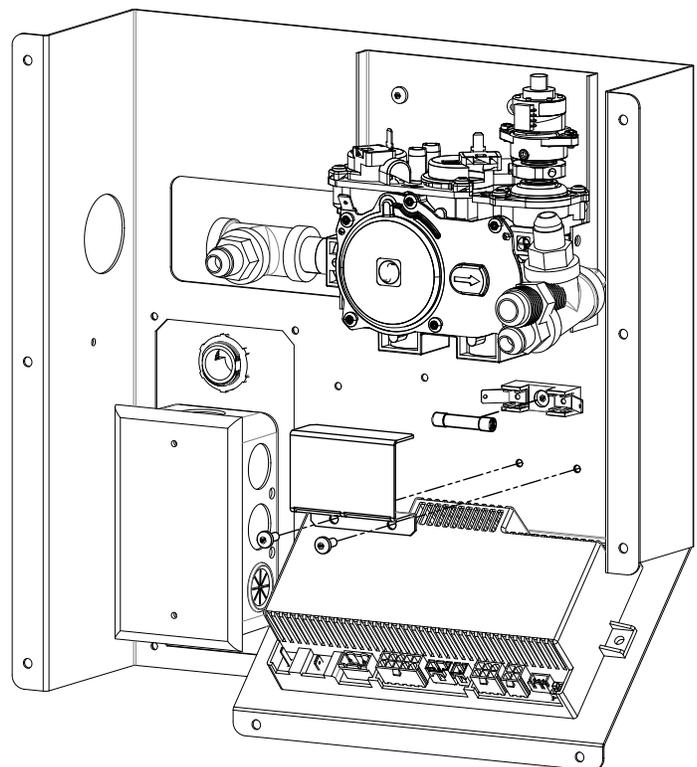

Figure 21: Fuse Removal
3. Remove the fuse cover by removing the two T-20 screws (see Figure 21).